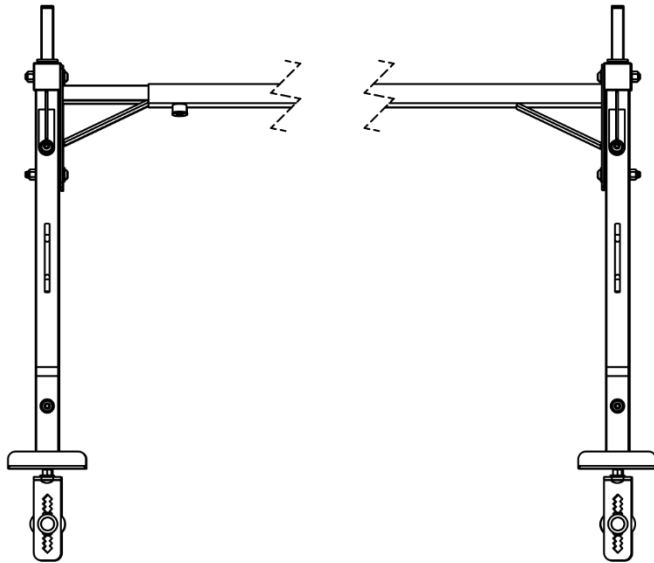

Figure 3
2. **Install the Rack Bases.** Examine the Bases (Item No. 6) and notice the upright flange. The base must be positioned so that this flange is on the outside of the bed as shown in Figure 3. To install the base, place it on the truck bedrail and position it so that the opening found on the bottom of the base is aligned with the bolt projecting up out of the stake pocket. As shown in Figure 4, slide the base forward so that its bottom can be clasped between the Carriage Bolt (Item No. 14), the Washer (Item No. 13) and the Lock Nut (Item No. 15). Once the base has been pushed forward, use a wrench to tighten the assembly until the washer and lock nut are in contact with the bottom of the base. **DON'T forget to apply a little grease to the screws before tightening or it may be hard to remove the nuts later.**